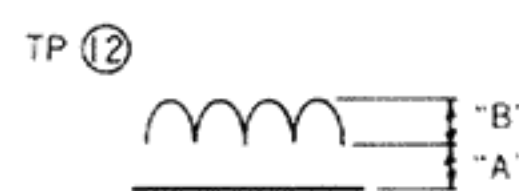
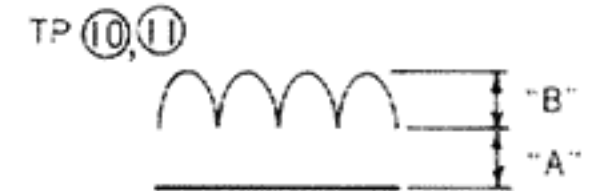

Fig. 47
Fig. 48
Utilizing the gain of TP⑫ as the adjustment criterion, adjust the gains of TP⑩ and TP⑪. For TP⑩, adjust VR784 (1k ohm) to make the heights of "A" and "B" in Figure 48 equal to those of TP⑫ in Figure 47. At this time, heightening either "A" or "B" will result in a circuit characteristic lowering of the other. For TP⑪, adjust VR796 to obtain the same result. Lock adjustment may necessitate repeating the 2.2Hz adjustment. (If "B" exceeds 100mV, the motor is defective.)